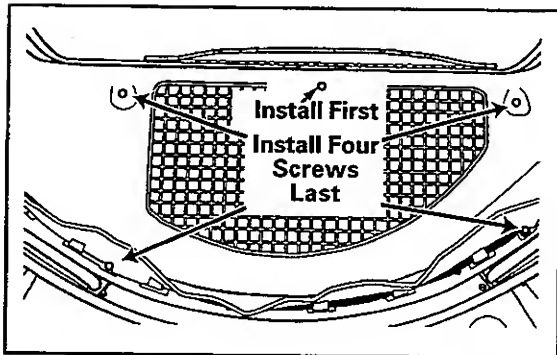

Figure 10-3
- When reattaching the outlet duct assembly to the tumbler front, install the center screw (found above the grid area) first, followed by the four outside screws in any order (*Figure 10-3*).